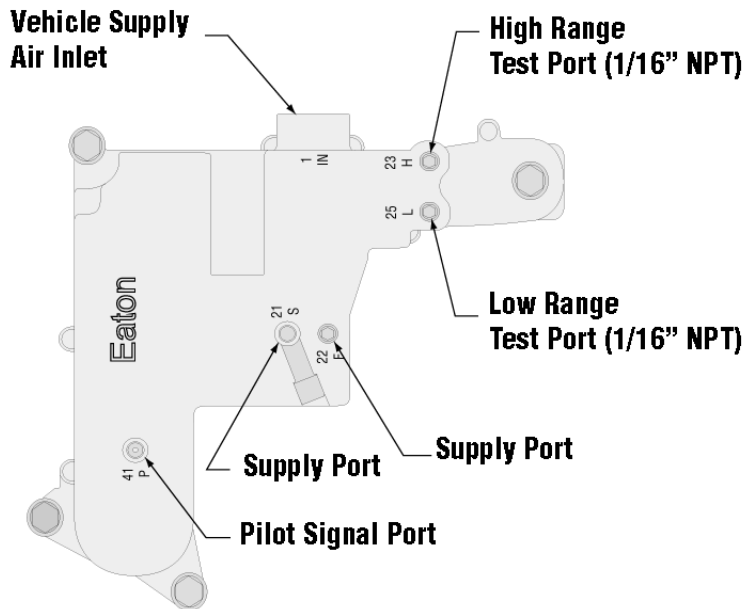

Figure 4-1 Air Module Ports
Figures 4-1 through 4-3 below show the air module, shift knob, and range alignment lock cover (earlier models) with their components labeled. These are the primary components used during troubleshooting. If necessary, refer to these figures while troubleshooting the air system.
5. Block off the air ports on the underside of the module. Use a piece of gasket material or rubber material to seal the bottom of the module as shown in Figure 4-1 under "Air System Nomenclature".
Reconnect the "P" line at the shift knob. Locate the two small pipe plugs on the rear of the air module. One is labeled "H" and the other "L". (See Figure 4-1 "Air System Nomenclature"). Install a 0-150 PSI (0-1034 kPa) air gauge in the port marked "H."
Less than 75 PSI (517 kPa)	On the top of the air module, remove the test port pipe plug for filtered vehicle air. (Marked "F" as shown in Figure 4-1.) Install the test gauge in the "F" port, and check the pressure. If the pressure is less than 90 PSI (620 kPa), repair the vehicle air system to achieve full vehicle air pressure at the air module inlet, and repeat the test. If the pressures greater than 90 PSI (620 kPa) and no external air leaks were detected from the air module, shift knob, or transmission, replace the air module.
4. Isolate and test the air module. Refer to Figure 4-1 "Air System Nomenclature" to see an example of an isolated air module.
Reconnect the "P" line at the air module. Locate the two small pipe plugs on the rear of the air module. One is labeled "H," and the other is labeled "L". (See Figure 4-1 "Air System Nomenclature"). Install a 0-150 PSI (0-1034 kPa) air gauge in the port marked "L".